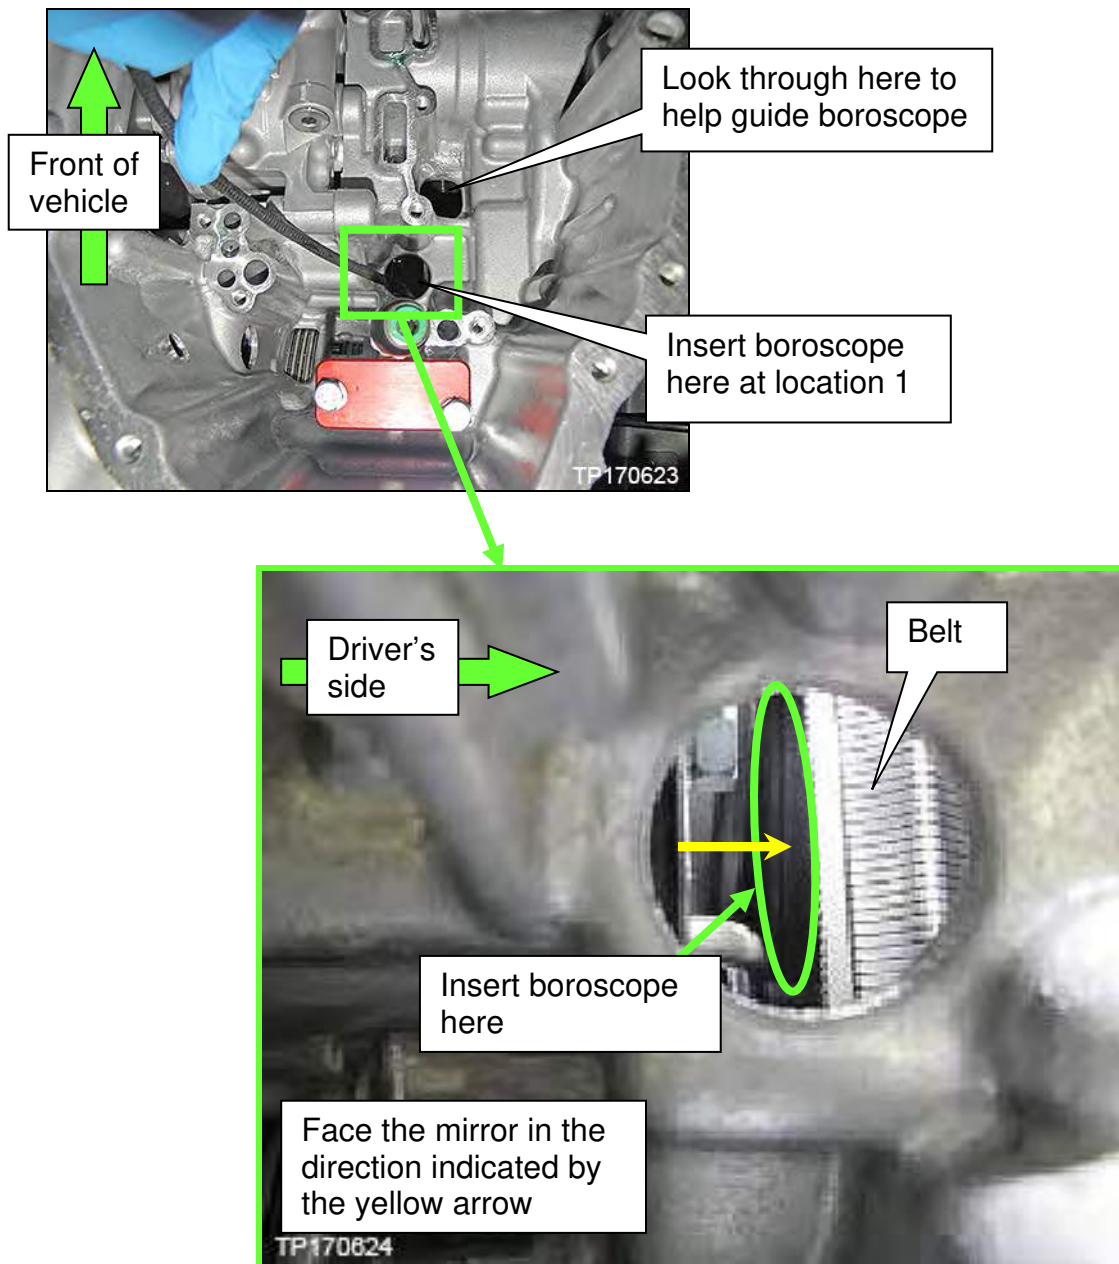

Figure 5C
c. Insert the boroscope where shown in Figure 5C as follows: